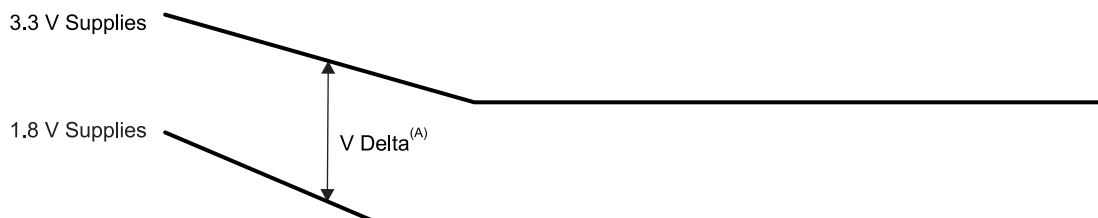

Figure 8-3. 1.8 V Supplies Falling Before 3.3 V Supplies Delta
(1) The 1.5-/1.8-V DVDD\_DDR[x] and CVDD, CVDD\_x variable supplies can be powered down prior to or simultaneously with the 1.8-V supplies.
(2) The 3.3 V supplies **must** never be more than 2 V above the 1.8 V supplies (see Figure 8-3).